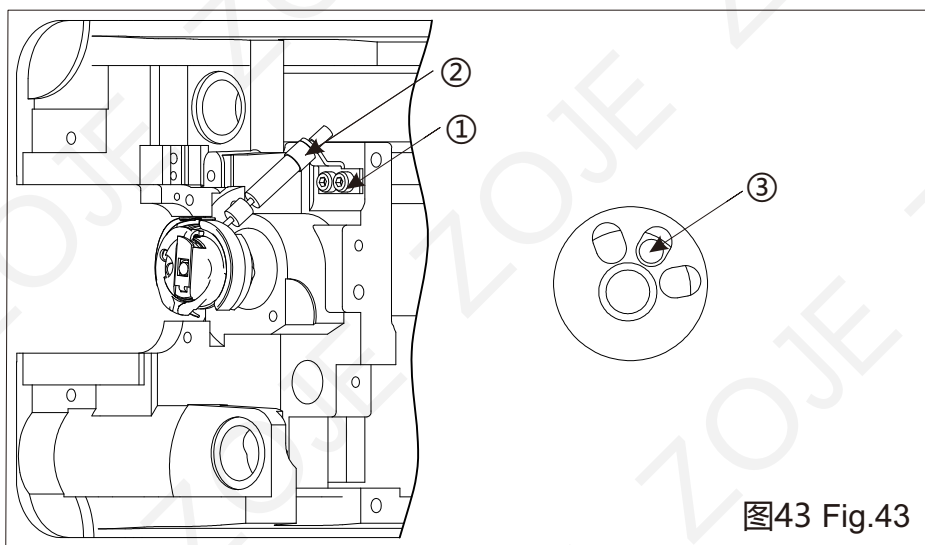
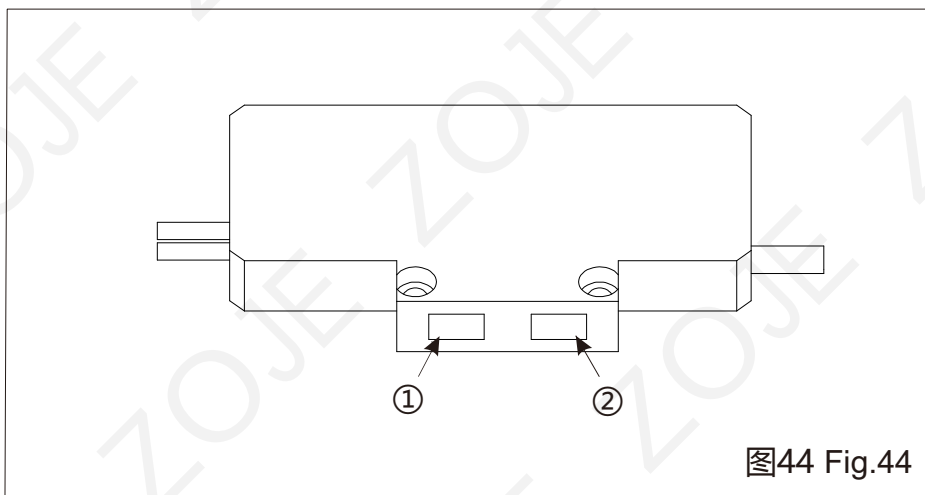
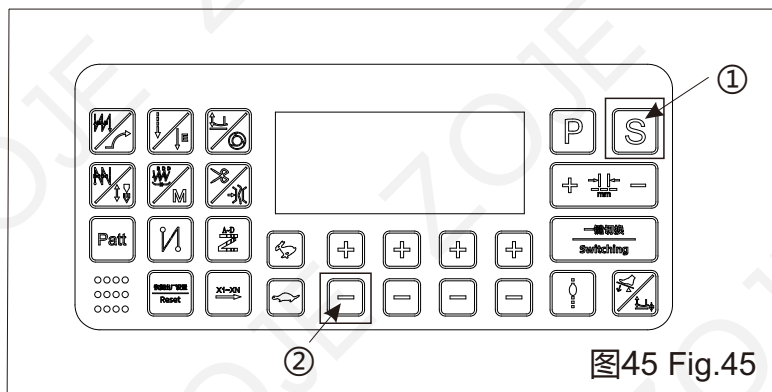

图43 Fig.43
图44 Fig.44
图45 Fig.45
34 底线检测的调节(图43、图44、图45)
Adjustment of bottom line detection(Fig. 43, Fig. 44, Fig. 45)
调整安装板①位置，保证聚焦镜②红外线照进梭芯，如图43所示。
2. 设置传感器放大器的报警值(图44)
Adjust the position of the mounting plate① to ensure that the infrared rays of the focusing lens② shine into the bobbin, as shown in Figure 43.
2. Set the alarm value of the sensor amplifier, as shown in Figure 44.